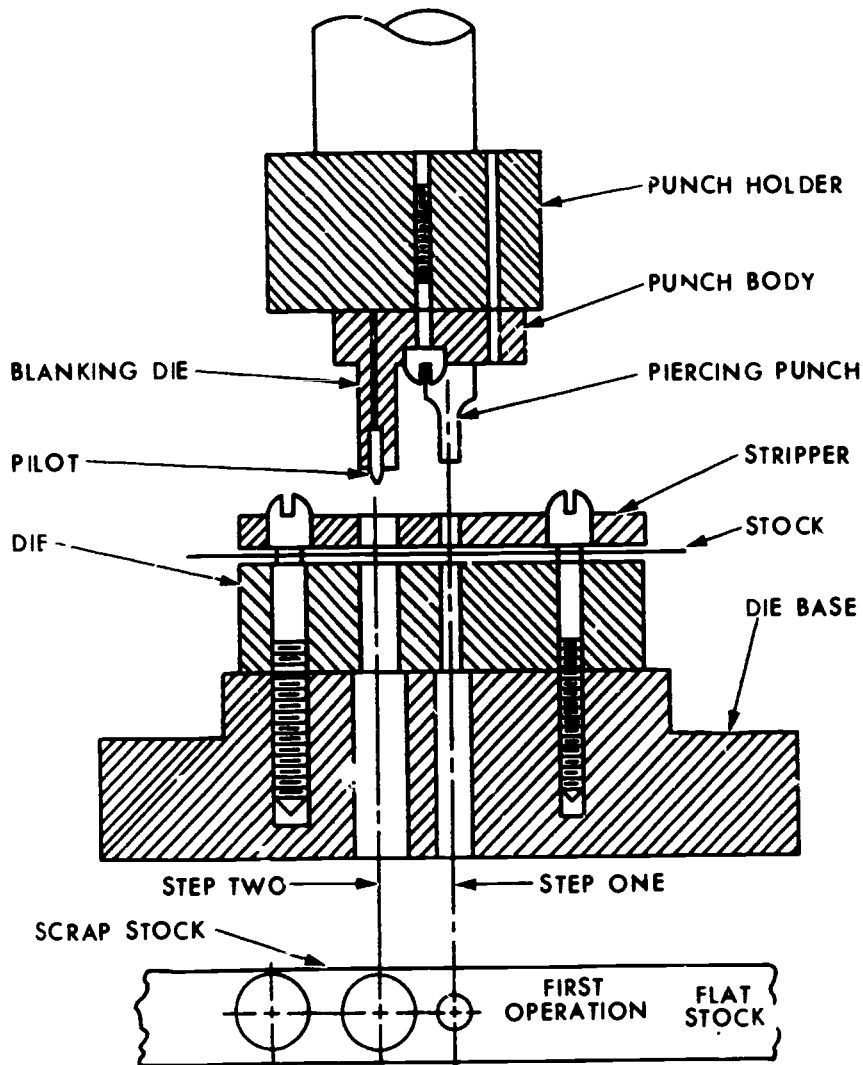

Figure 1-28 Progressive die
**Progressive.** What are termed "progressive die sets" perform two or more operations at different stages each time the ram descends. Figure 1-28 illustrates a simple progressive die. Refer to this figure, as we explain this type of die. The stock is fed progressively into the die set, the two operations on the stock following each other. At step one, a round hole is pierced, and the slug becomes scrap. The stock is then advanced to step two, either by hand or by a mechanical feeding device. On the second downward stroke, the workpiece is blanked out, and another hole is pierced in what will be the second blank. The pilot on the blanking punch enters the pierced hole to insure exact alignment of the stock before it is blanked. The pilot is detachable, so that it can be removed if it is necessary to sharpen the punch. Progressive dies can be made, and are made, with many stations. In some progressive dies, the blanks are cut first. Then spring plates return the blank to the strip. The strip then carries the blank to the following strips, where the blank is pierced and formed.